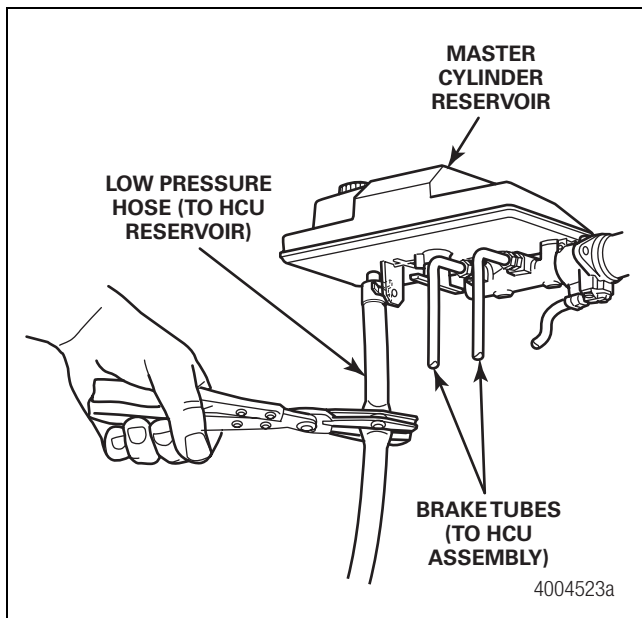

Figure 4.60
6. Attach a pinch clamp to the low pressure hose near the outlet of the master cylinder reservoir. Do not damage the reservoir outlet. Figure 4.60.